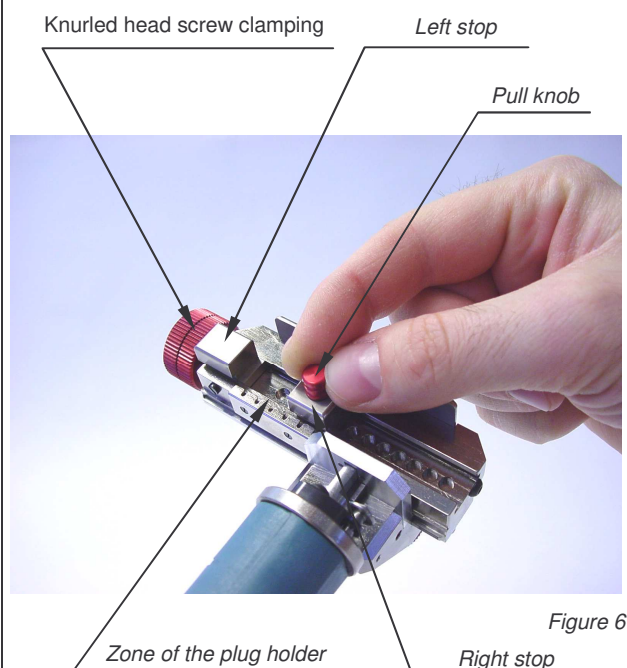

Figure 6
**2.** In order to pre-set the zone of the plug holder to the correct casing length, lift up the red pull knob of the right-hand stop and slide it in the raster to the required length (see figure 6).